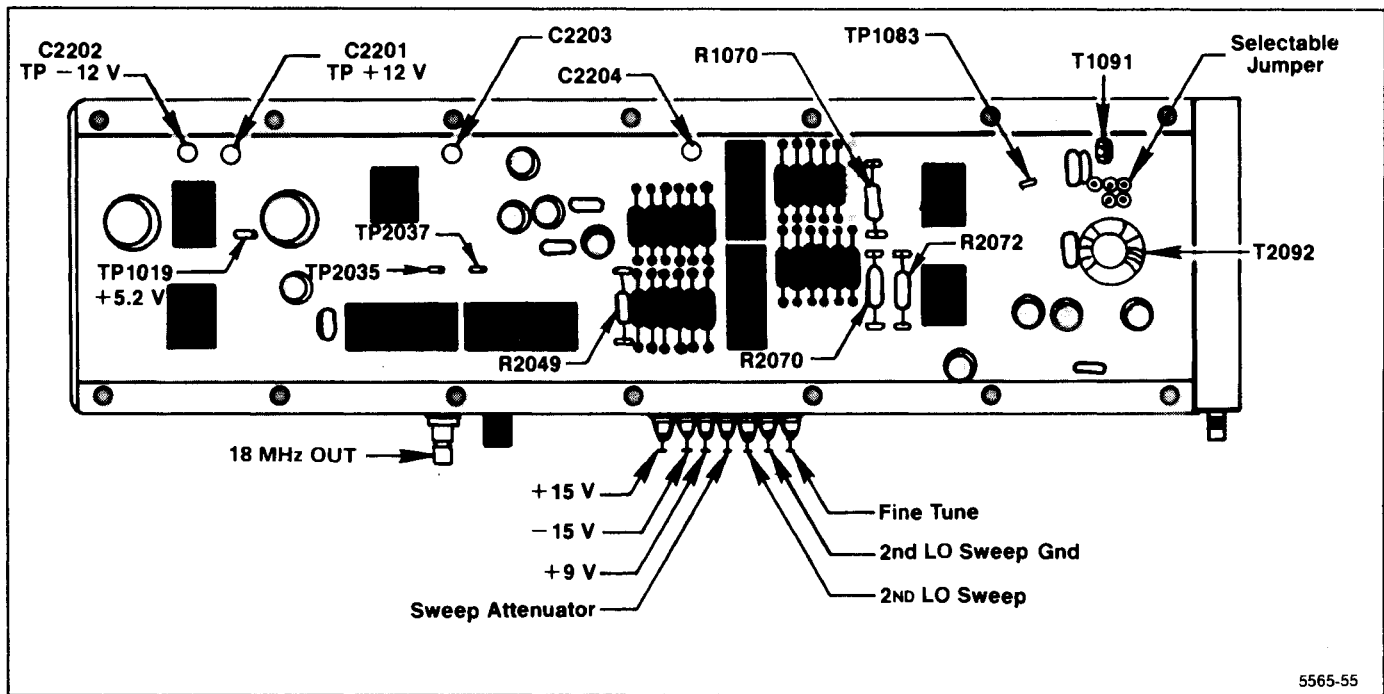
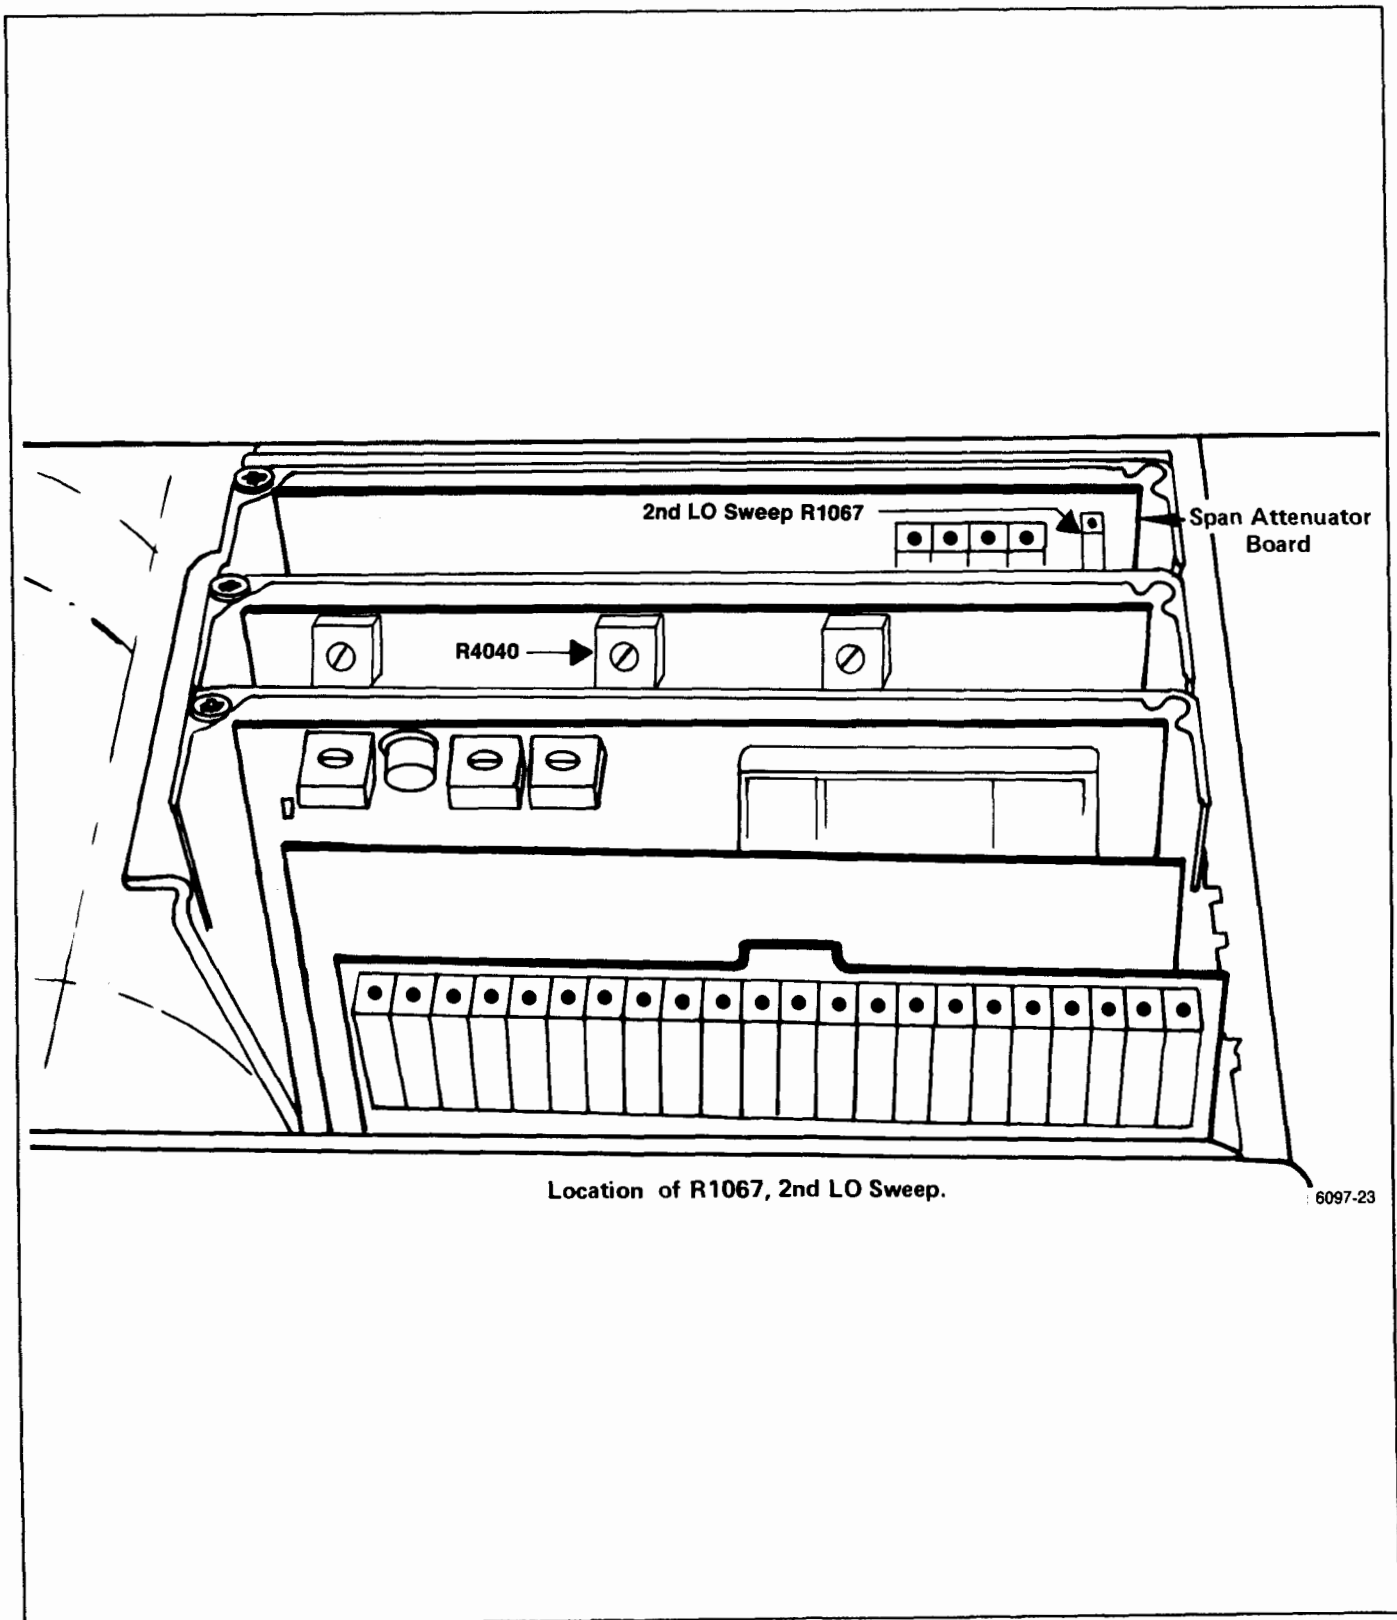

Figure 6-20. 16—20 MHz Phase Lock circuit test point and component locations.
Figure 6-24. Tune and Sweep Range adjustments.
Remove the 14 screws that hold the cover on the mu-metal section and remove the cover. Unsolder the leads to feedthrough capacitors C2203 and C2204. (These are the center two feedthrough terminals that feed through the circuit board, as shown in Figure 6-20.)
4. Remove the mu-metal lid and reconnect the leads to feedthrough capacitors C2203 and C2204, on the Phase Lock board (Figure 6-20). Replace the lid and install the 14 screws. Tighten the screws from the
This side of the assembly contains the 16-20 MHz Phase Lock circuit board (see Figure 6-20). Replacing oscillator components in this section may alter sweep linearity and frequency of the 16-20 MHz oscillator. The following checks and calibration should aid in repairing and returning the assembly to satisfactory operation.
a. Check all input voltages at the feedthrough capacitors in the housing wall. Refer to Figure 6-20 or the data printed on the lid. The voltage LEVEL at the sweep and tune input lines should be  $0\text{ V} \pm 0.05\text{ V}$  with the FREQ SPAN/DIV  $\geq 500\text{ kHz}$ .
c. Switch POWER on, then check the internal regulated voltages;  $+12\text{ V} \pm 0.4\text{ V}$  at C2201,  $-12\text{ V} \pm 0.4\text{ V}$  at C2202, and  $+5.2\text{ V} \pm 0.25\text{ V}$  at TP10109 (see Figure 6-20). Check the output of the shaper at TP1083 for a level between  $+0.3\text{ V}$  and  $-0.3\text{ V}$  ( $0\text{ V} \pm 0.3\text{ V}$ ).
a. Center the Fine Tune adjustment R4040, on the Center Frequency Control board and the 2nd LO Sweep adjustment R1067, on the Span Attenuator board (Figure 6-24).
c. Press <SHIFT> 7 to disable frequency correction; then press <SHIFT> 0, and select item 0 from the menu. Now select frequency display of 2nd LO (2). Readout will now indicate the 2nd LO frequency.
d. Tune the 2nd LO to one end of its range where the frequency readout no longer changes. Note the frequency and measure the voltage on the Tune Line at the input feed-through capacitor (Figure 6-20).
c. Adjust the 2nd LO Sweep R1067, on the Span Attenuator board (Figure 6-24), so the comb lines on opposite sides of the screen, are exactly 8 major divisions apart.
(1) A shaper diode or resistor may be defective if the comb line spacing is consistent for part of the tuning range and 30 kHz or more off for the other parts of the sweep. To test the diodes for forward conduction, tune to the low end of the range and short R2049 (Figure 6-20). The output of U1073A (pin 1) should equal about +3 V. U1059 diodes B through G and U2059 diodes A through F should all have a 0.48 V forward drop. Use a floating or digital voltmeter to check the drop.
(2) Turn POWER off then temporarily replace Shaper resistor R2049 with a 20 k $\Omega$  potentiometer. Switch POWER on, and adjust the potentiometer to obtain the best overall linearity; decreasing resistance will decrease the spacing between comb lines in the upper portion of the tune range and spread the spacing for the lower portion. Increasing the resistance of R2049 will reverse the effect. When